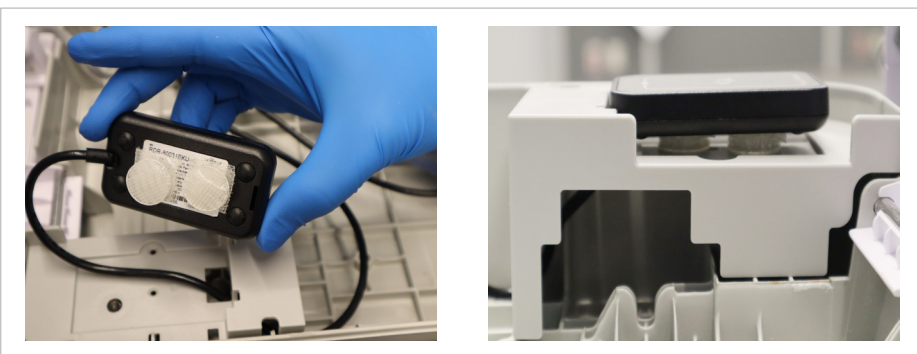

Figure 5
- i NOTE: FOR HID ICLASS SEOS APPLICATION, ADD TWO **DUAL LOCK COIN STICKERS** (H-DUAL-LOCK-ROUND) ON TOP OF THE **DUAL LOCK STICKERS** (H-DUAL-LOCK-CN) ON EACH, THEN ADD TWO MORE **DUAL LOCK COIN STICKERS** (H-DUAL-LOCK-ROUND) BY CONNECTING THE VELCROS TO RAISE THE **RFID MINI READER** (FIGURE 5).**